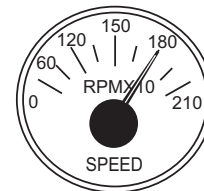

Figure 55. Engine Tachometer Gauge
11. The **tachometer gauge** (Figure 55) will indicate the speed of the engine when the generator is operating. Under normal operating conditions this speed is approximately 1,800 rpm.